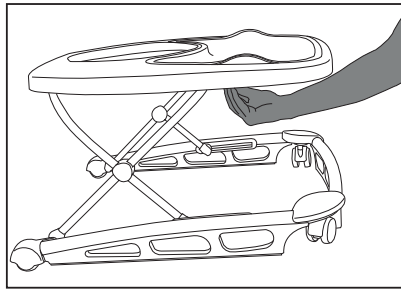

Figure 3.2
- To fold or adjust the walker's height, locate the rectangular button under the front end of the walker. **See Figure 3.2**.